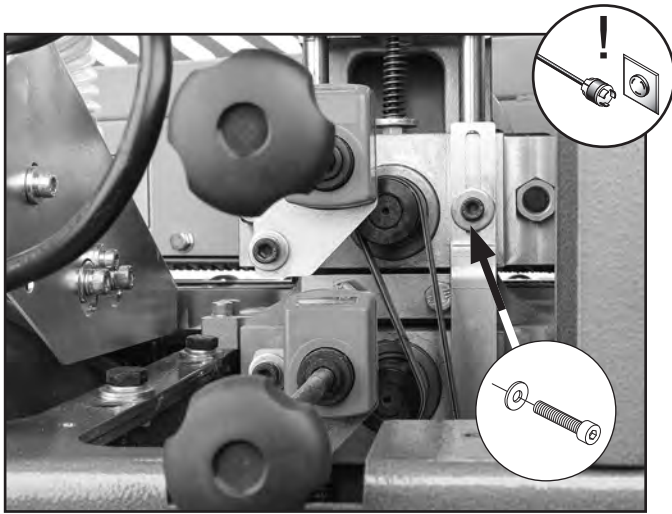

Figure 111. Location of cap screw to loosen when changing flush trimmer drive belt.
4. Loosen cap screw shown in **Figure 111**.